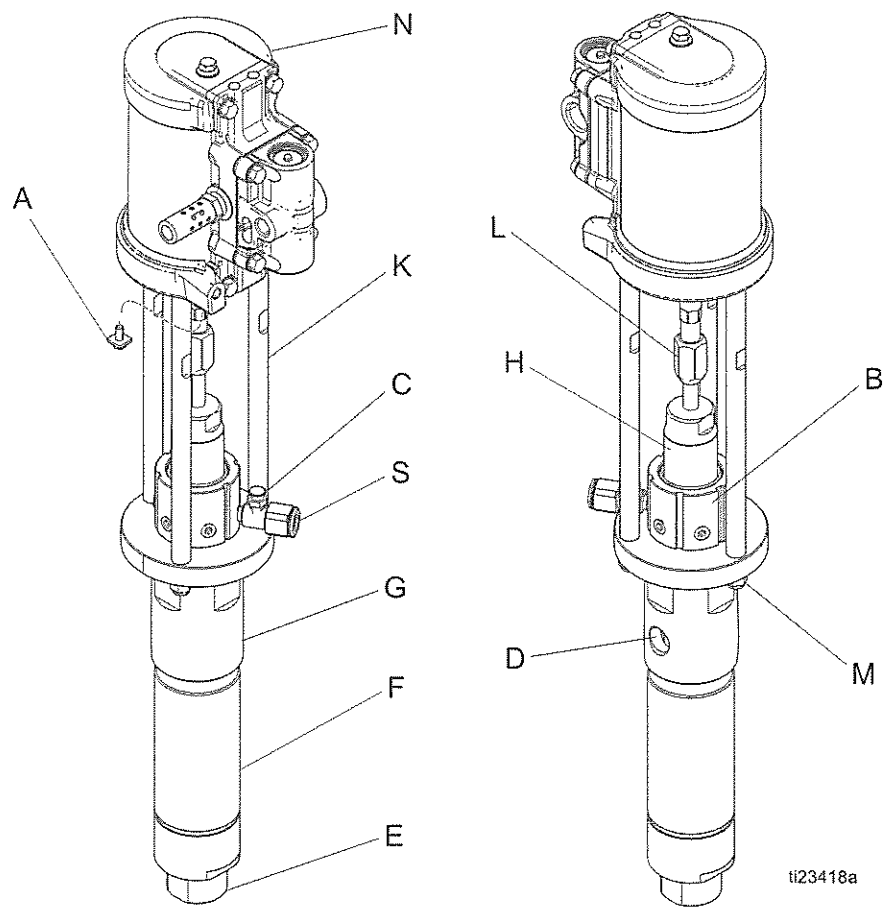

FIG. 1. Component Identification
6. Note the relative position of the pump fluid outlet (D) to the air motor air inlet. See FIG. 1, page 4.
3. Screw the tie rod nuts (4) onto the tie rods (3) loosely.
4. Install coupler nut and collars onto displacement rod. Hold the flats of the air motor position rod with a wrench. Use another wrench to tighten the coupling nut (9).
5. See FIG. 1, page 4. Apply thread sealant to the pump fluid outlet (D) and the threads of the fluid hose. Mount the pump and reconnect all hoses. Reconnect the ground wire if it was disconnected during repair. Torque the enclosed wet cup (B) to 60 ft-lb (81 N•m). Fill the wet cup fill port (C) with Graco TSL.
6. Tighten the tie rod nuts (4) evenly, and torque to 15-20 ft-lb (20-27 N•m).
8. Check for fluid leakage at the enclosed wet cup (B). Perform **Pressure Relief Procedure**, page 5.